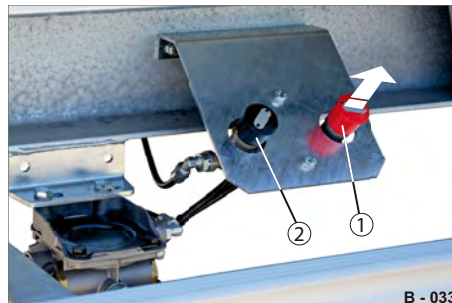

Fig. 32 Actuate the parking brake
- ▶ Engage the spring-loaded parking brake (Fig. 32/1). This brakes the trailer.